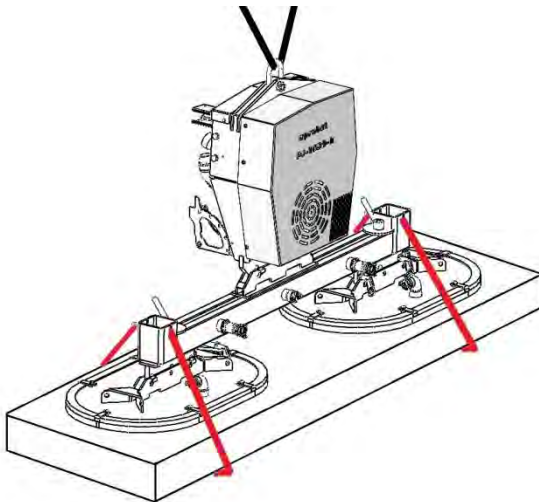

Fig. 1
**The suction plates must always have the *same* distance (A) to the vertical centre axis of the spreader bar (see figure 1).**
- The safety chains must fit tightly to the load, in that way that the load is held in case of a vacuum failure (Fig. 1)